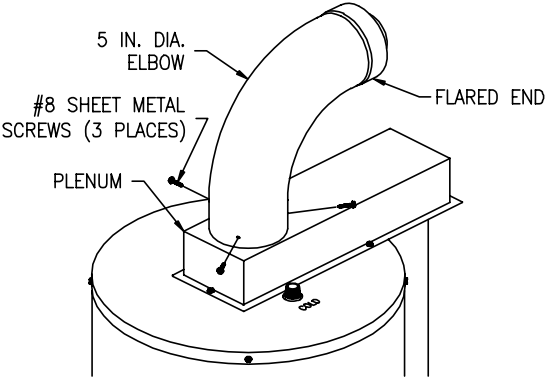

Figure 14
4. For water heaters where the five (5) inch (12.7 cm) diameter elbow is not yet installed:
Place the straight end of the five (5) inch (12.7 cm) diameter elbow over the three (3) inch (7.6 cm) diameter elbow and plenum collar until seated on top of the plenum box. Make certain that the five (5) inch (12.7 cm) diameter elbow is oriented in the same direction as the three (3) inch (7.6 cm) diameter elbow and both are oriented in the correct direction. Drill three (3) 1/8 inch diameter holes, 120° apart, through the five (5) inch (12.7 cm) diameter elbow into the plenum collar. Fasten with three (3) #8 sheet metal screws (supplied). (See Figure 14).